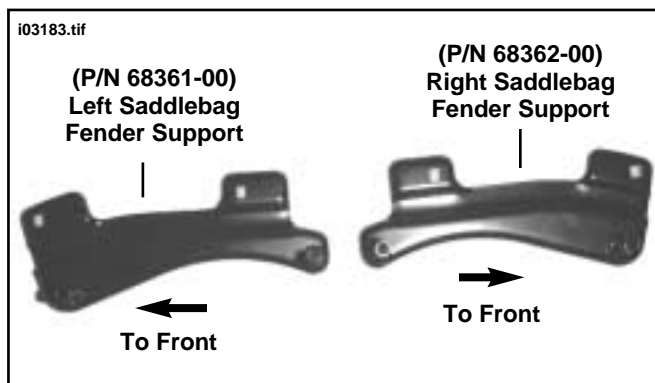

Figure 16. Identify Left and Right Supports
1. See Figure 16. Obtain and identify the left and right saddlebag supports.